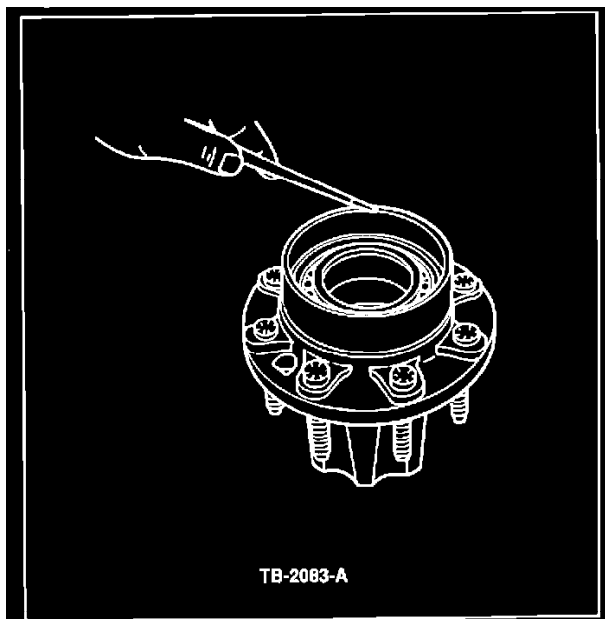

Figure 2
3. Thoroughly clean and inspect the hub bore, Figure 2.